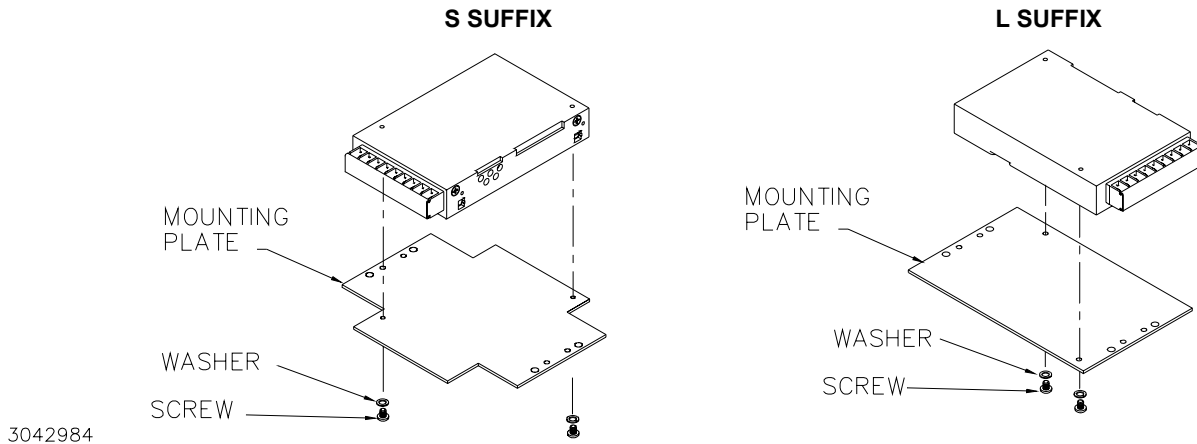

FIGURE 3. INSTALLING MOUNTING PLATE ON POWER SUPPLY
1. **INSTALL MOUNTING PLATE.** Attach the mounting plate to the power supply using the hardware supplied (see Figure 3).